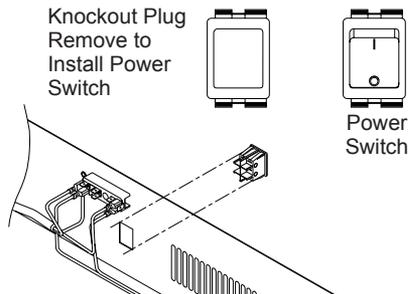

Figure 21 - Installing Heater Power Switch
11. Remove control panel knockout plug located in heater switch position by pressing locking tabs and pushing plug out through front of panel (see Figure 21).
12. Firmly insert red power switch into open mount location with "ON" (I) indicator positioned on top.